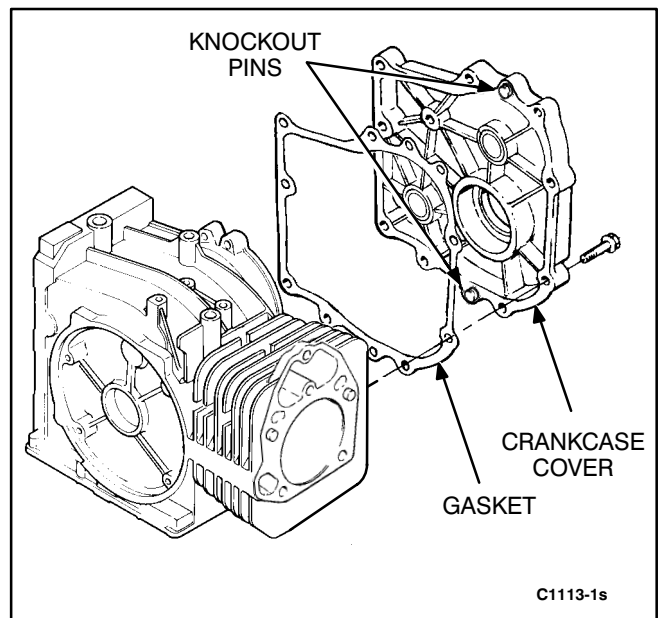

FIGURE 10-13. CRANKCASE COVER
1. The crankcase cover is located in two places with dowel pins (Figure 10-13). Do not attempt to pry the crankcase cover off or damage can result. Remove the crankcase cover mounting bolts. Hold the crankcase cover and lightly tap the end of the crankshaft with a plastic hammer.